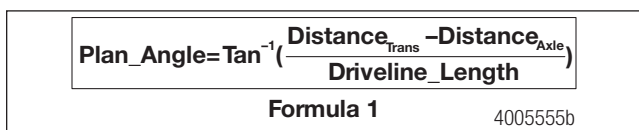

Figure 14.34
- Calculate the plan view universal joint angles using Formula 1. Figure 14.34.